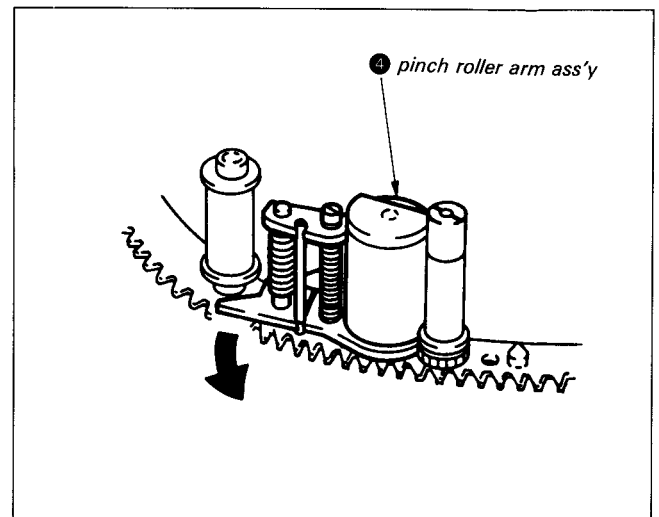

Fig. 7-16.
- 4) Rotate pinch roller arm assembly ❹ in the direction of arrow. (See Fig. 7-16.)